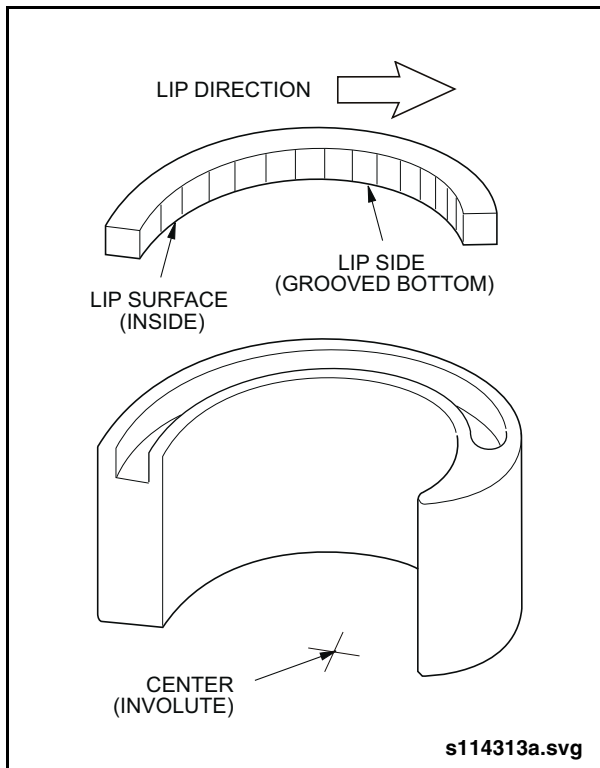

Fig. 6: Orbital Scroll Seal Installation
4. Insert tip seal with lip of the seal (grooved bottom) facing bottom of scroll seal groove. Ensure lip faces center of scroll. See “Fig. 6: Orbital Scroll Seal Installation” on page 7.